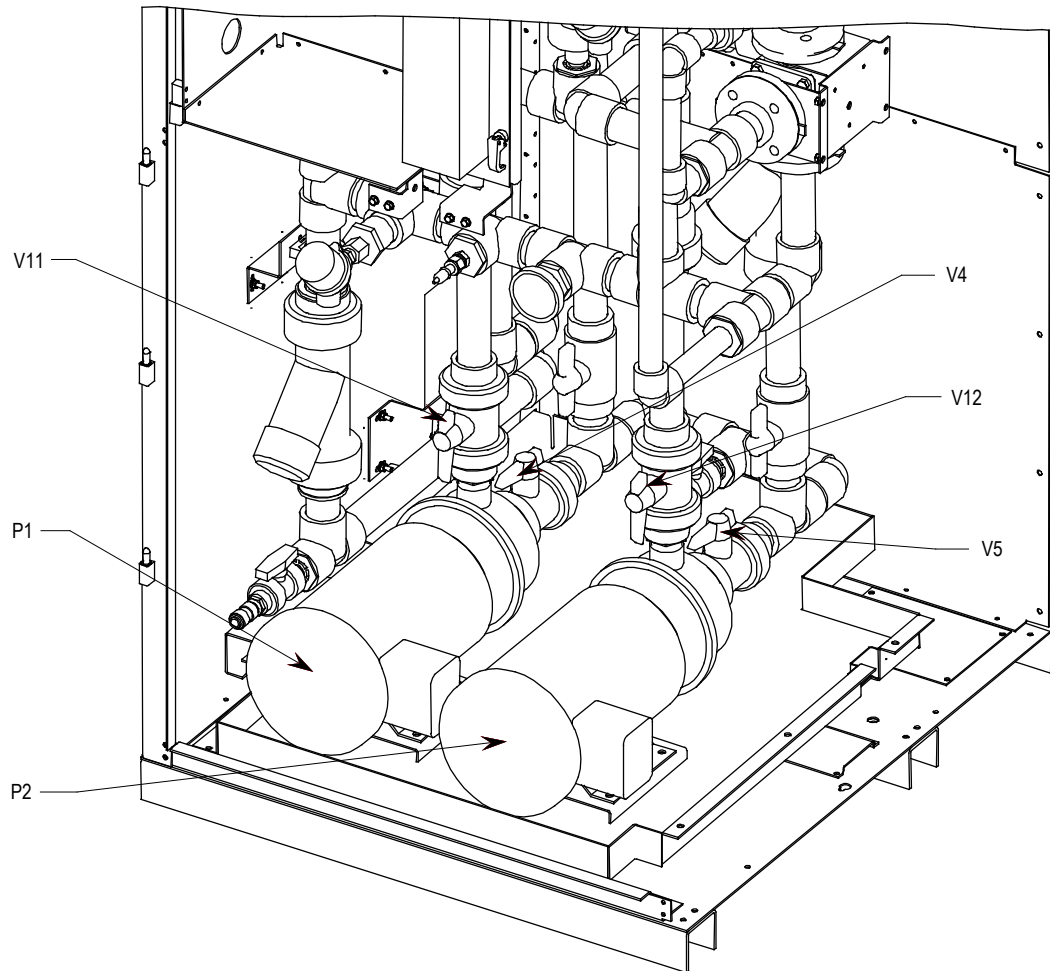

Figure 4.54 – Drain/Fill Pump
Two pumps (P1 and P2) are used to move coolant through the system (Figure 4.54). One of the pumps is used as a backup. The control logic alternates the primary and secondary pump once every eight (8) hours. Ensure that the pumps never run dry, as this will damage the pump seals. Ensure the pumps don't cavitate (pumping air pockets) when filling the system.